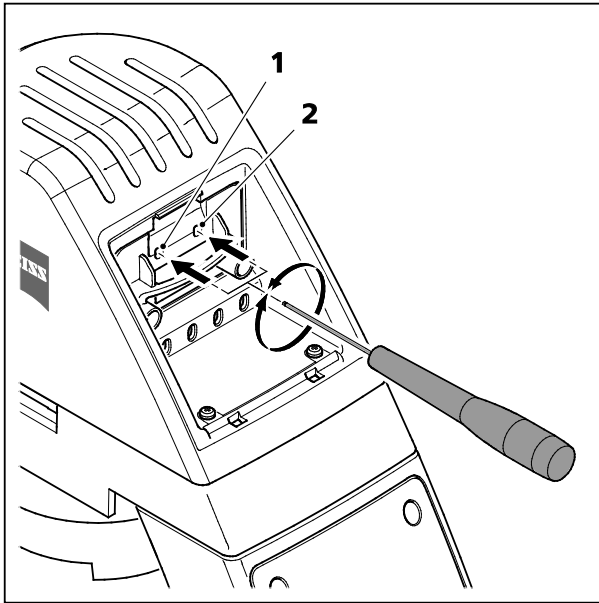

Fig. 21 Centering the halogen bulb
- If the illumination background is not homogeneous, center the halogen bulb by slightly rotate the both screws (Fig. 21/1 and 2) with the SW 2.5 hexagonal key.